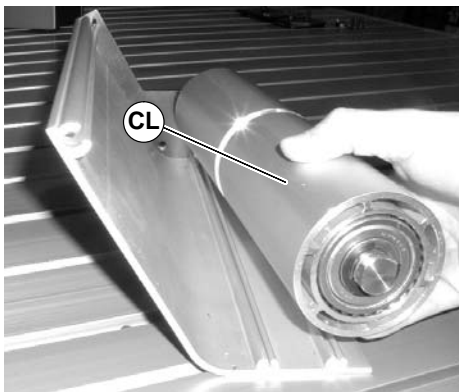

Figure 72
- Slide the idler pulley assembly (CL of Figure 72) out of the idler guide side plate on the opposite side.